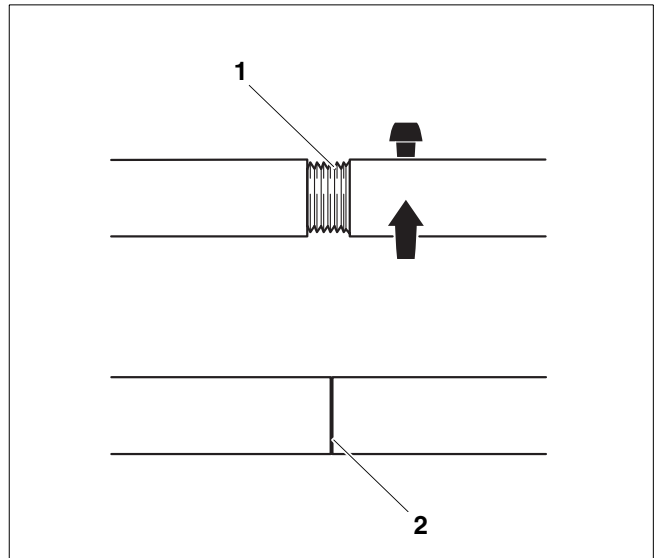

Fig. 17 Size 2.3 boiler compression tool
When the size 2.3 compression tool is released, it is possible that the screwed joints in the tie bars (Fig. 17, **ref. 1**) may partly unscrew, so these joints should be checked and if necessary re-tightened whenever the compression tool is going to be used again (Fig. 17, **ref. 2**). If the compression operation is performed with the joints partly unscrewed, this may damage or destroy the compression tool.